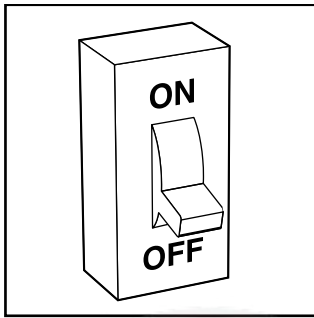

Fig. 6 – Turn Off Electrical Supply
3. Turn OFF electrical supply to the furnace (see Fig. 6).
- Turn off electrical supply to the furnace (see Fig. 6).